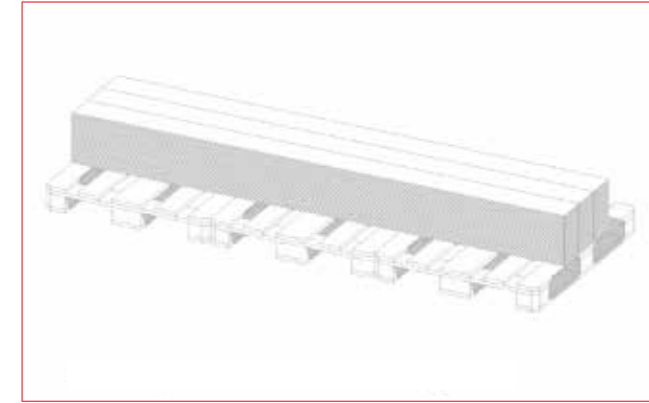

fig.4 - Store horizontally on a level surface
- Prior to conditioning, Lap planks should be stored horizontally on flat pallets or bearers on a level surface in a dry, sheltered position (see fig.4)